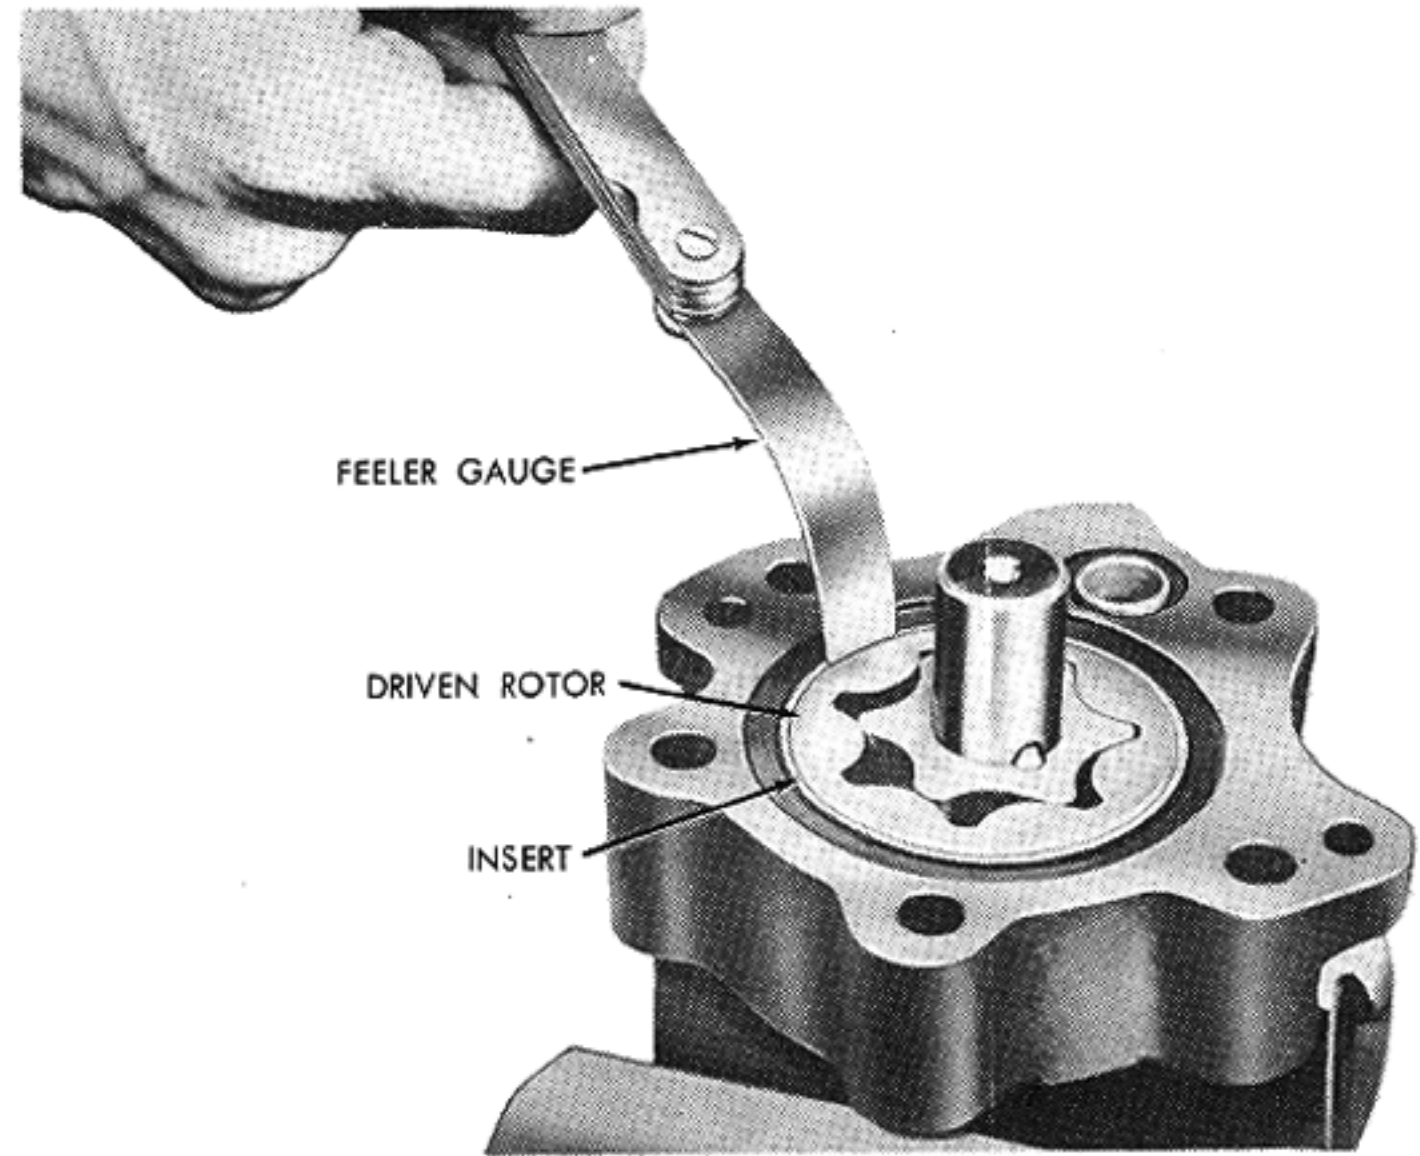

Figure 11—Checking Rotor to Insert Clearance
4. Check the clearance between the driven rotor and the insert in the pump body as shown in Figure 11. If the clearance exceeds 0.006 inch, replace the pump body and rotor assembly. If all the clearances are within specifications, remove the rotors, shaft, and bearing from the pump body.